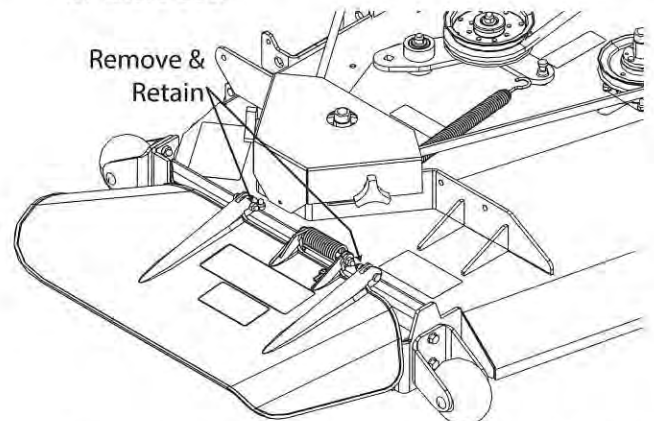

Figure 3-14. Removing the Discharge Chute
1. Remove the discharge chute from the machine. See Figure 3-14.